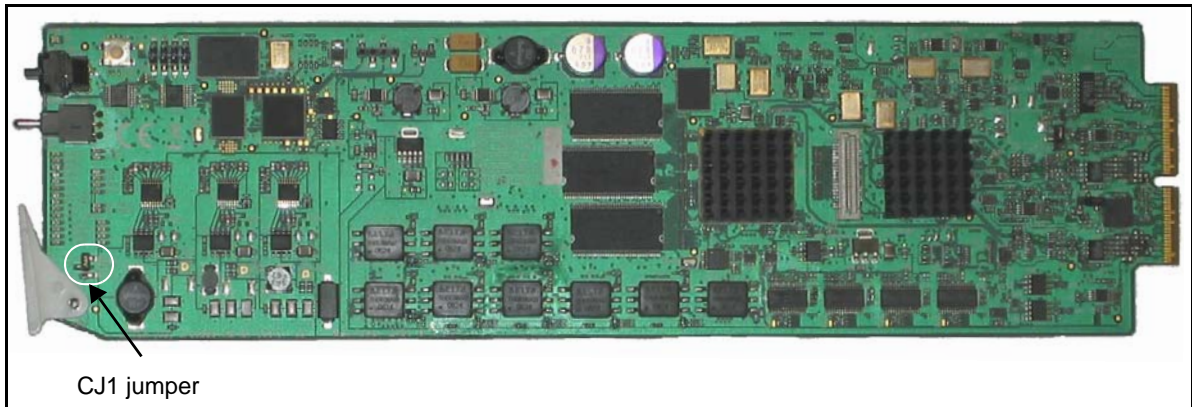

Figure 2-1. Jumper Locations
1. Locate jumper **CJ1** on the module (behind the extractor handle). Figure 2-1 shows the location of the **CJ1** jumper.